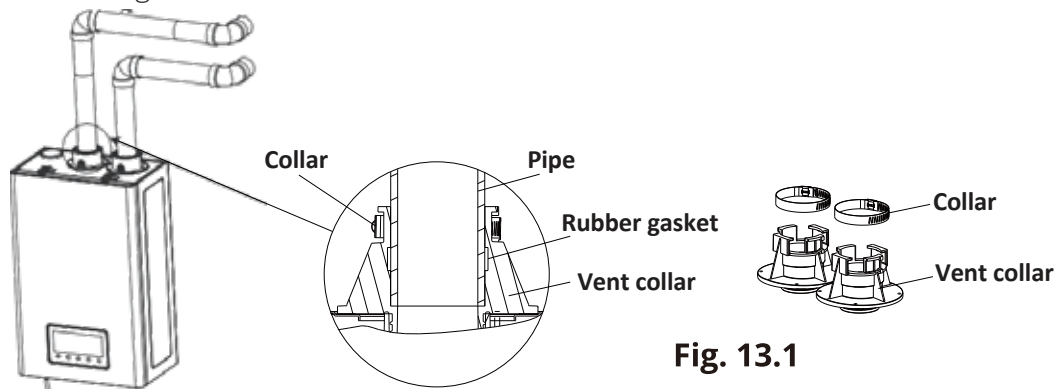

Fig. 13.1
3. Insert the pipe into the vent collar to start the vent run. Make sure to completely slide the vent into the collar until the end makes contact with the bottom of the socket. (See Fig. 13.1)